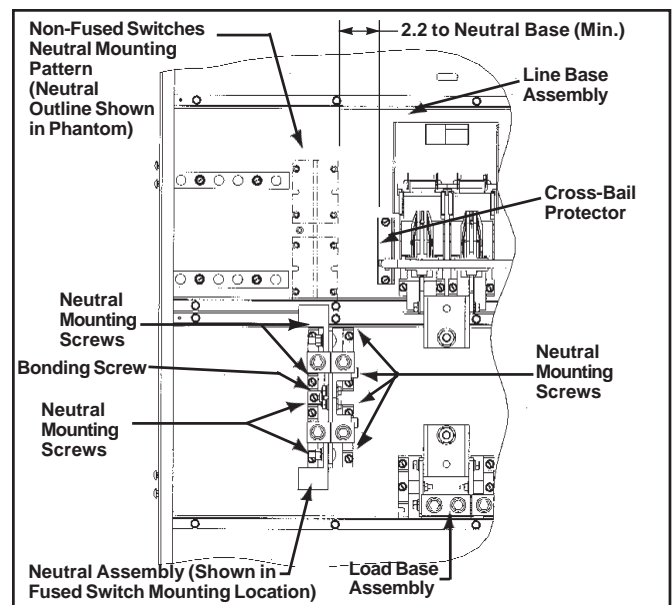

Fig. 2
Verify spacing to Cross-Bail Protector per Figure 2 before mounting Neutral. Drill (8) new .22 diameter
holes (7/32 drill), if spacing is less than shown. Place new holes at the dimensions shown in Figure 2 to allow access to Neutral ground lugs when installation is complete.
5. Position Neutral Assembly over existing holes as shown in Fig. 2.
7. When bonding is required place green thread rolling screw in Bonding Strap as shown in Fig. 2, and torque to 45 - 50 lb.-ins.